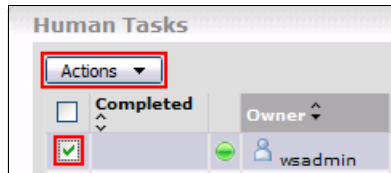

Figure A-111 Selecting an incomplete assigned human task
2. Click the **Actions** button and select **Transfer task to user ID** (Figure A-111).